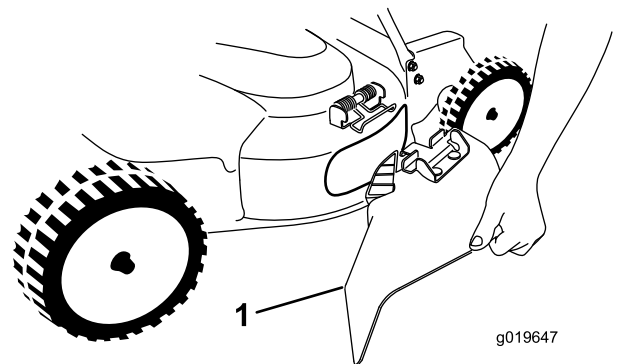

Figure 24
5. Install the side-discharge chute (Figure 24) by pulling up on the spring, placing the chute over the opening, and lowering the spring over the tabs on top of the discharge chute.